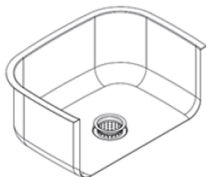

FIG 2
c) Apply a bead of silicone to the recess of the outlet and around the flange of the Scraptrap. Place fixed basket through the 50mm sink outlet as shown in Fig 2